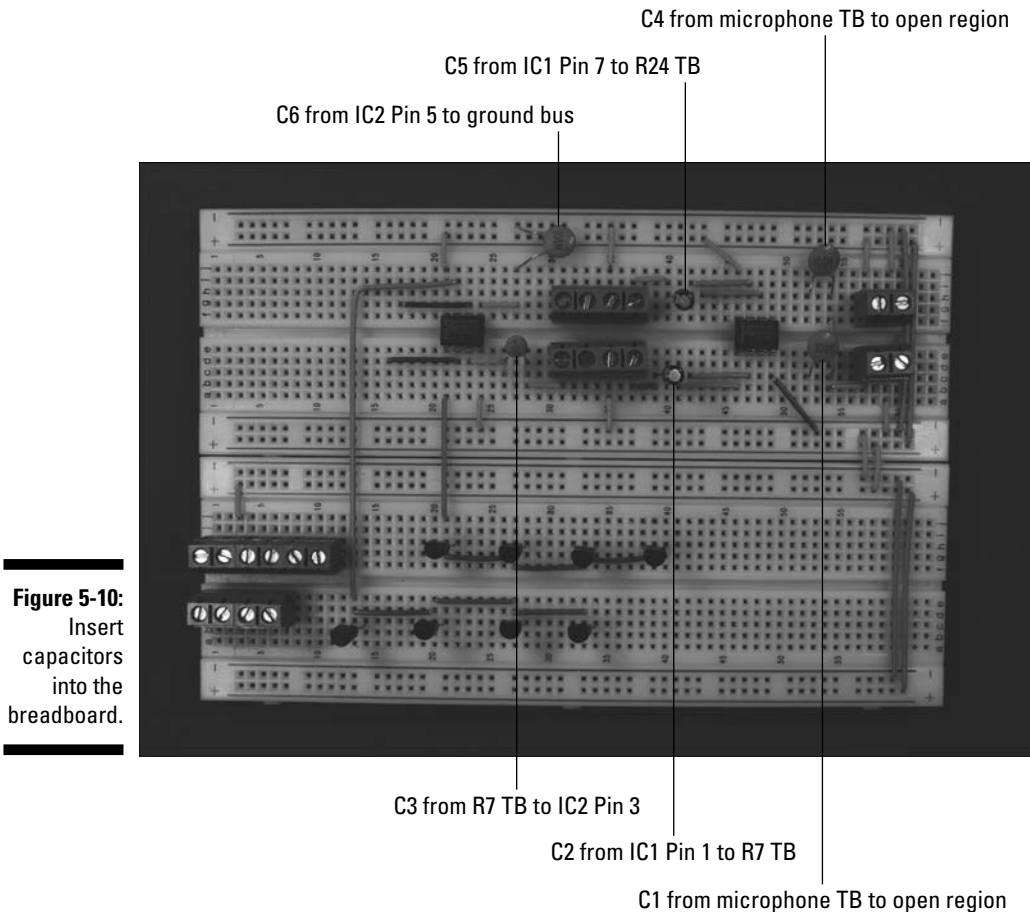

Figure 5-10:
7. Insert three 0.1 microfarad capacitors (C1, C4, and C6), two 10 microfarad capacitors (C2 and C5), and one 0.001 microfarad capacitor (C3) on the breadboard, as shown in Figure 5-10.